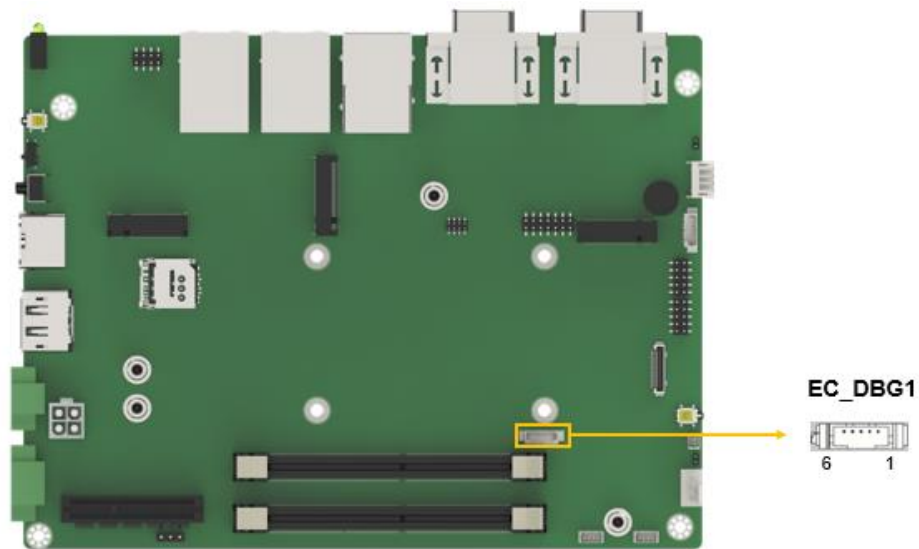

Figure 4-21: EC Debug Connector Location
- CN Location:** See **Figure 4-21**